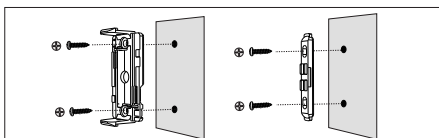

Figure 4.2: Detector and magnet mounting with screws
6. When the location is acceptable, permanently mount the detector and magnet using the double-sided tape on the base. If using screws for mounting, remove the detector and magnet covers to access the mounting holes. You may have to remove the tape on the bottom of the detector and magnet bases to mount flush on the surface. Refer to *Figure 4.2* for surface mounting, *Section 4.4*, and *Section 5* for removing the magnet and detector covers. For additional security, use an adhesive with the screws when mounting.